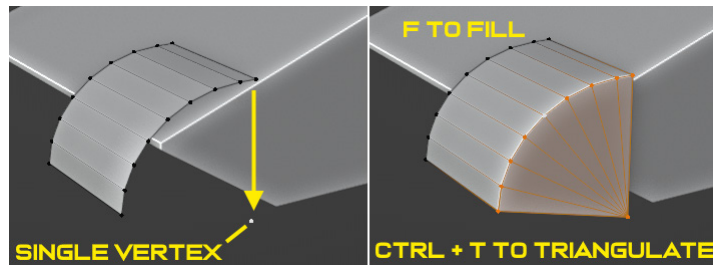

Figure 7.19 – A single vertex (left) and triangulation (right)
- Duplicate a single vertex from the corner of the shape, as shown in *Figure 7.19* (left), and lower it down. Once lowered, fill the side by pressing *F*, and triangulate the filled face by pressing *Ctrl + T* with the face selected.